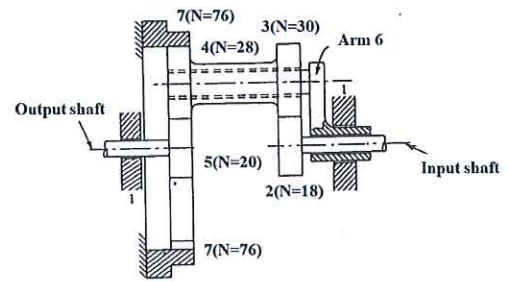

Fig.5. Planetary gear train
3. For a gear pair with module $m=3.0$ and pressure angle $\psi=14.5^\circ$, a pinion ($N_2=28$) drives a gear ($N_3=72$). Please find (a) Contact length (L_c), (b) Contact ratio (γ_c). If center distance (C) increases 1.5mm, please find (c) New pressure angle $\psi'=?$, (d) new Contact length (L_c'), and (e) new Contact ratio (γ_c'). (20%)
5. Fig. 5 shows a gear reducer with ring gear 7 fixed. If sun gear 2 is the input link and sung gear 5 is the output link, if $\omega_2=2400\text{rpm}$ (CCW), please find ω_5 (value and its direction).